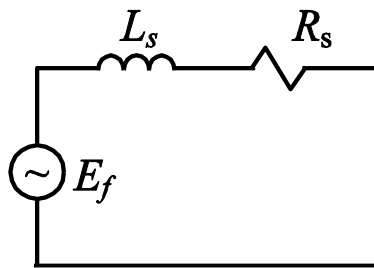

Fig. 1: Synchronous machine per-phase stator equivalent circuit.
By doing a set of measurements, the students will determine parameters of the synchronous machine per-phase equivalent circuit, as shown in Fig. 1.
- Prepare a list of equations for calculating the equivalent circuit parameters using the Open-Circuit and Short-Circuit Tests. Write the equation for torque in terms of the parameters and variables of the circuit in Fig. 1.
- Write the equation for torque in terms of parameters and variables of the circuit in Fig. 1;
A multi-functional **Measurement Box** is located in the middle of your bench. Log in to your local PC and find the LabVIEW program **3 Phase AC Motor Analysis**. Double-click on the icon and start the program. A window shown in Fig. 1 should appear on your PC screen, indicating that you are ready to start taking measurements. The **3 Phase AC Motor Analysis** program interface is set up to display the three voltages (channels **V1, V2** and **V3**) and three currents (channels **A1, A2** and **A3**), **Speed** and **Torque**, as will be needed in this Lab. The measurement window can be